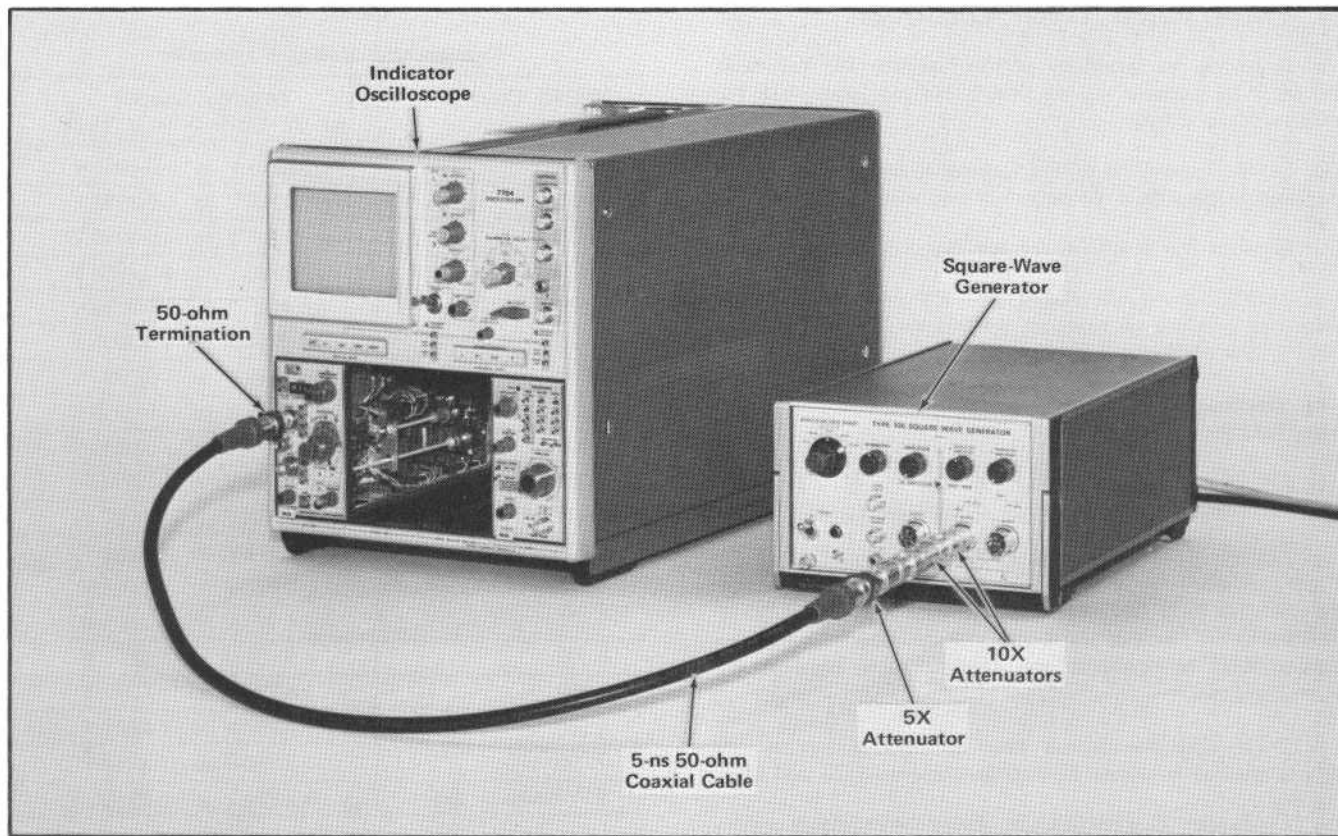

Fig. 5-28. Equipment setup for step 32.
a. Test equipment setup, with connections made at completion of step 32c, is shown in Fig. 5-28.
c. Apply the 1 kHz signal from the Type 106 +Output connector through two 10× attenuators (connected in series), a 5× attenuator, a 5-ns coaxial cable, and a 50-ohm termination to the Type 7A13 +INPUT connector. Fig. 5-28 shows the connecting sequence for the items.